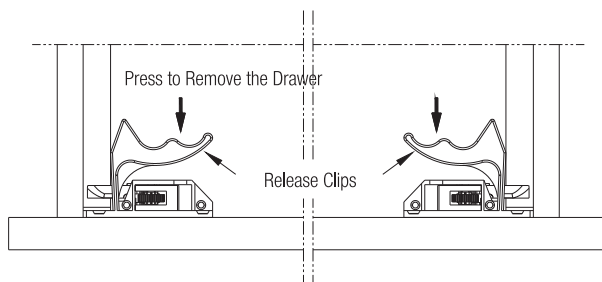

Fig. 5
7. Drawers can be removed out by pressing both the release clips as shown in Fig. 5.